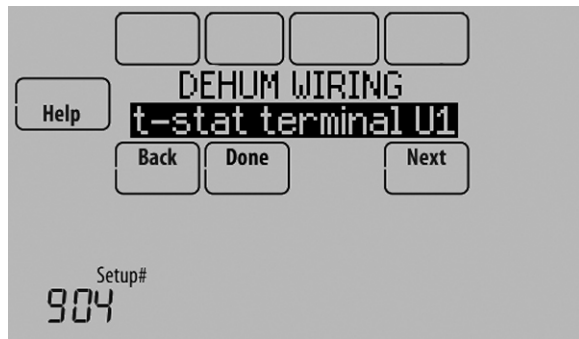

Fig. 219.
4. Select the terminals wired to the Dehumidifier. See Fig. 219.